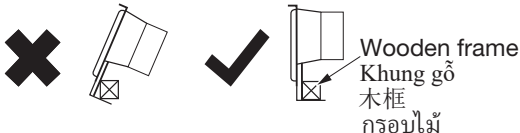

Fig.4 / 图4
- ③ Fix the adaptor assembly on wooden frame with 2 self-tapping screws of $\Phi 4.2 \times 20$. (Fig.4)
按图示将接头组合紧靠木框固定，并用自攻螺丝 $\Phi 4.2 \times 20$ (2颗) 固定 (图4)。